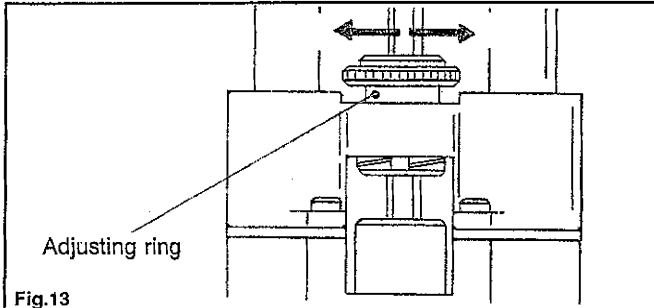

Fig.13
16. Adjusting the tightening depth (Fig. 13)